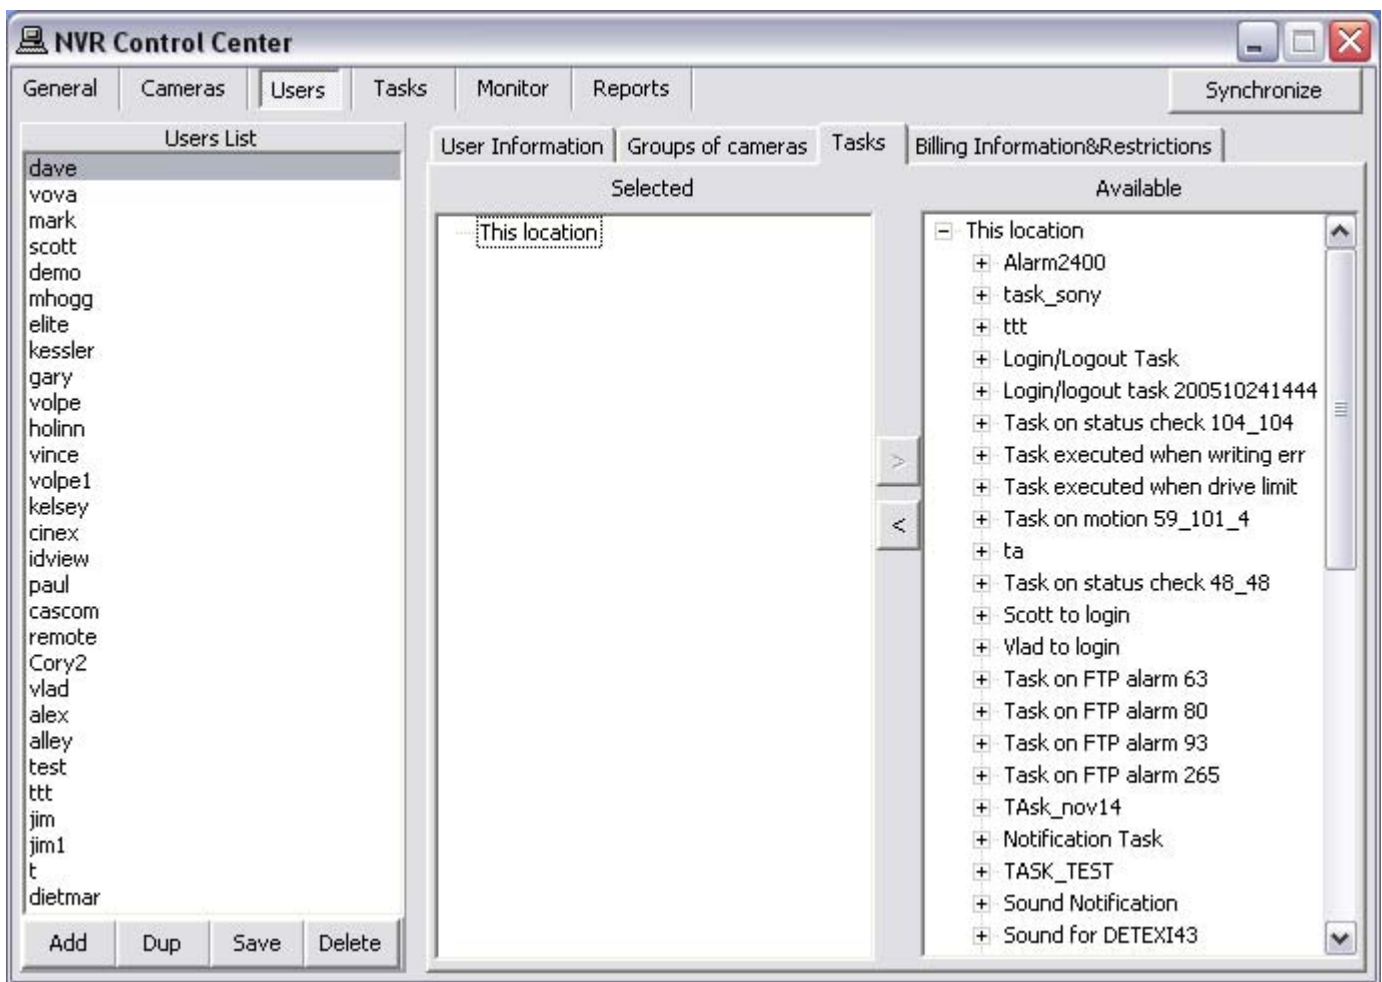

Fig 15. NVR Control Center — Users — Tasks
2. Select a user from the **Users List** and switch to the **Tasks** (Fig 15).